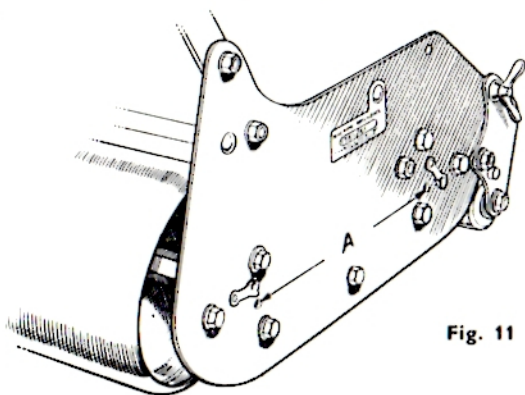

Fig. 11
- (g) Cutter shaft bearing and rear roller shaft bearing on the other side of machine. Access is provided by sliding two oil hole covers (A, Fig. 11) aside.